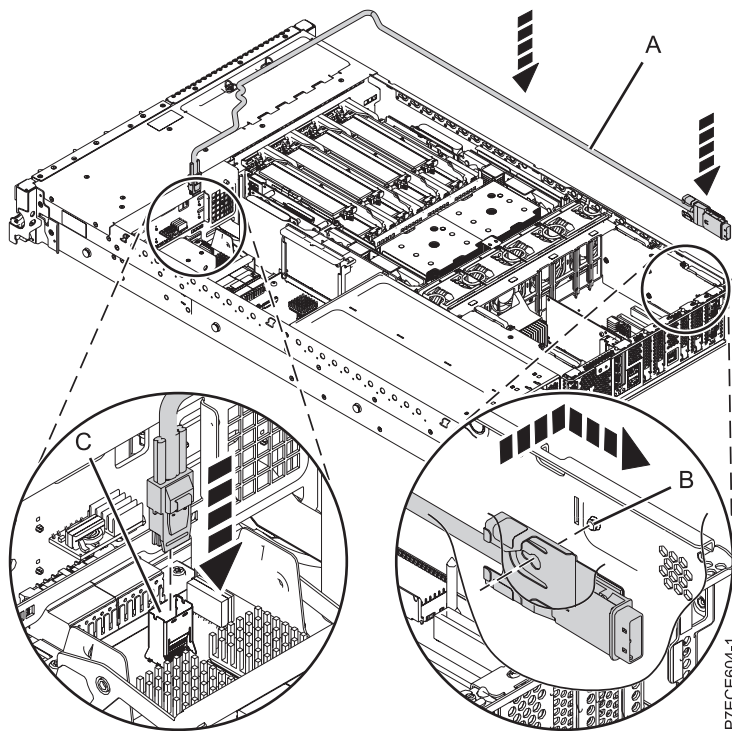

Figure 29. Replacing the SAS cable
3. Connect the mini-SAS connector of the SAS cable to the internal SAS connection port (C) on the storage interposer until it snaps in place. See Figure 29.
4. Route the cable (A) in front of the memory riser cage, and along the channel in the side wall until the SAS port connector is near the opening on the rear of the chassis.
5. Align and guide the slot in the bracket of the SAS port connector (B) over the guide pin in the chassis. Then slide the SAS port connector into the opening on the rear of the chassis until the tab on the bracket snaps in place.